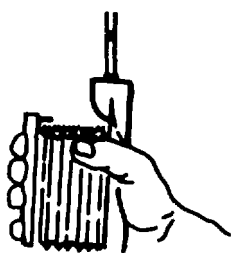

Figure B-6.
- d. Hold the pump as shown in Fig. B-6.
c. Sucking-in the Gas Sample. Hold the pump in the hand with the pump between the thumb and the base of the index finger and the fingers resting on the front plate. (Fig. B-6).